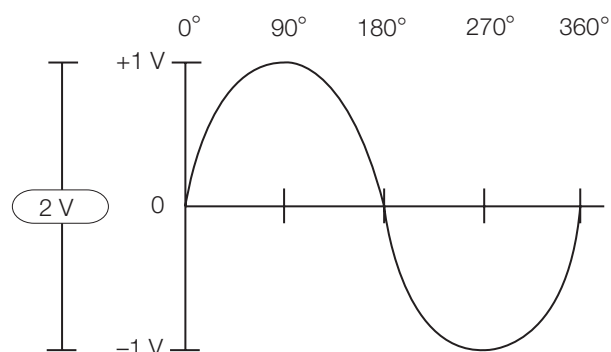

Figure 9. Amplitude and degrees of a sine wave.
Amplitude refers to the amount of voltage between two points in a circuit. Amplitude commonly refers to the maximum voltage of a signal measured from ground, or zero volts. The waveform shown in Figure 9 has an amplitude of 1 V and a peak-to-peak voltage of 2 V.
**Phase** is best explained by looking at a sine wave. The voltage level of sine waves is based on circular motion. Given that a circle has  $360^\circ$ , one cycle of a sine wave has  $360^\circ$ , as shown in Figure 9. Using degrees, you can refer to the phase angle of a sine wave when you want to describe how much of the period has elapsed.